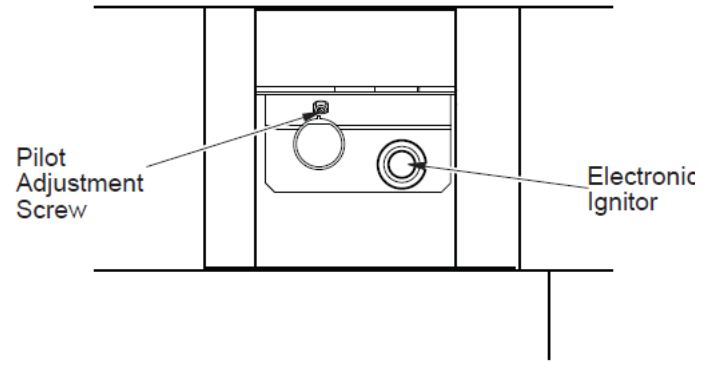

Figure 21 - Location of the Pilot Adjustment Screw
- Access pilot adjustment screw through slot in valve cover. Turn adjustment screw clockwise decrease or counterclockwise to increase the flame to proper size (see Figure 21). Do not remove adjustment screw.